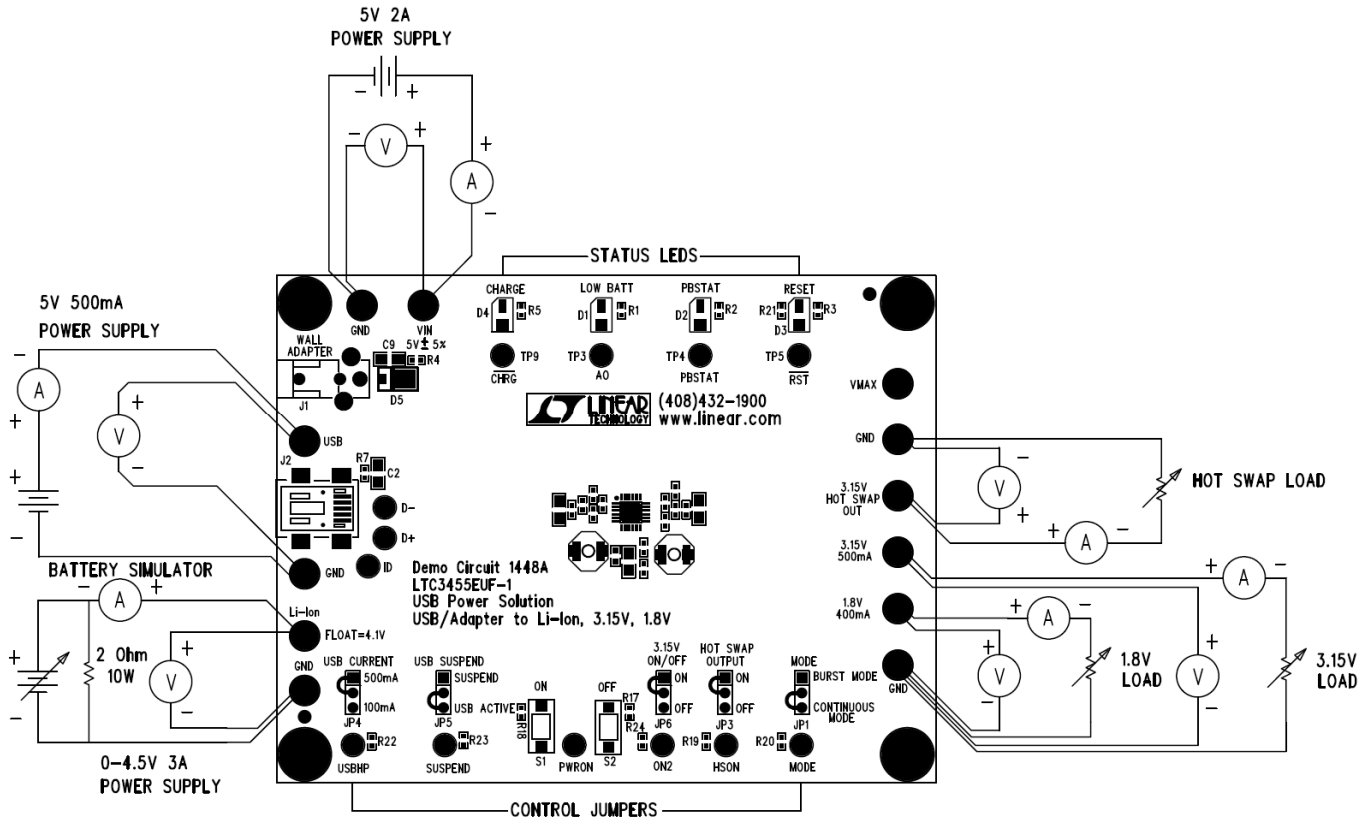

Figure 1. Proper Measurement Equipment Setup
Demonstration circuit 1448 is easy to set up to evaluate the performance of the LTC3455EUF-1. Refer to Figure 1 for proper measurement equipment setup and follow the procedure below:
1. With power off, connect input power supplies, meters, battery simulator, and output loads as shown in Figure 1.